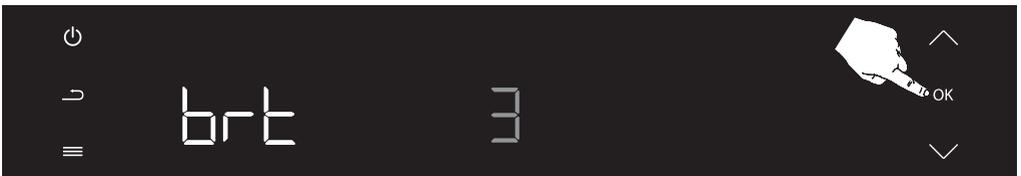

Figure 69
Press the Confirm button (OK) once to confirm the brightness level selection. (see figure 69)